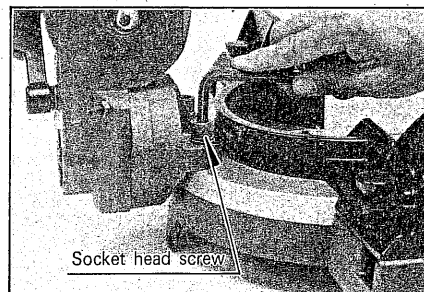

Fig. 18
4. If the top or bottom of the blade angles away from the square, loosen the two socket head screws that secure the mounting bracket to the turntable as shown in Figure 18.